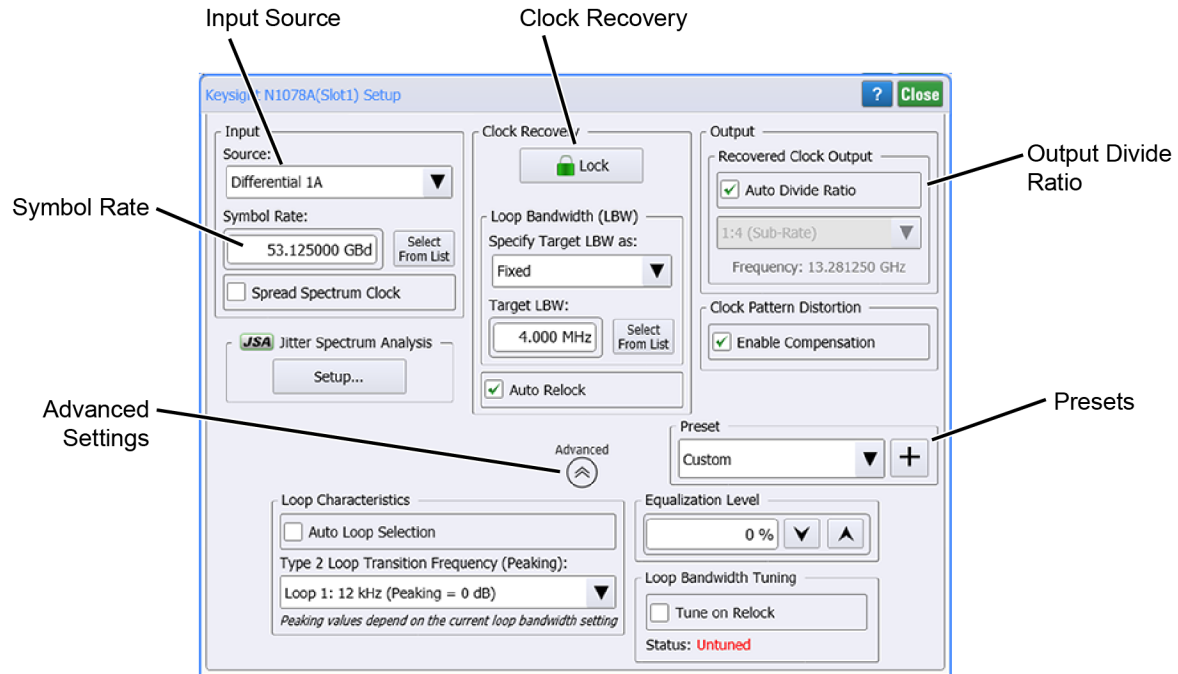

Figure 33. Clock Recovery Setup Dialog
6. Click **Setup** > **Modules** > **(Slot 6): Clock Recovery**. The Setup dialog is shown *Figure 33 on page 76*. The picture does not show settings required for this procedure.